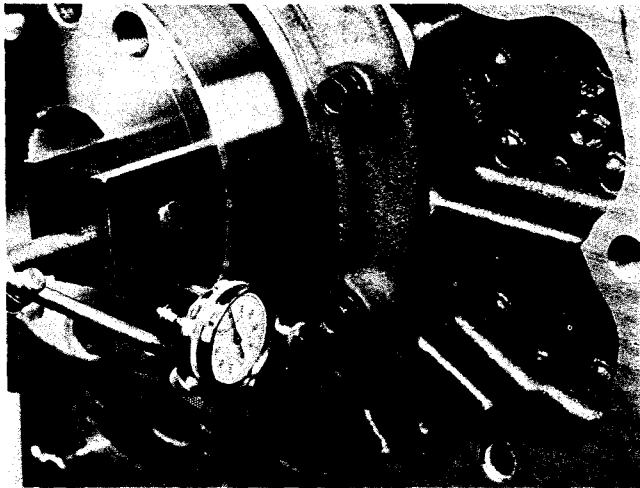

Fig. 14-42, (N114273). Checking rear cover plate run-out
3. Snug capscrews so cover can be shifted. Use ST-997 Seal Driver with ST-997-6 Buttons removed to align cover with crankshaft. Rear cover must be aligned within 0.005 inch [0.13 mm] total indicator runout and within 0.004 inch [0.10 mm] flat with pan rail of cylinder block (Fig. 14-42). Tighten cover capscrews to 24 to 29 ft-lbs [33 to 39 N•m] and trim off excess gasket material.